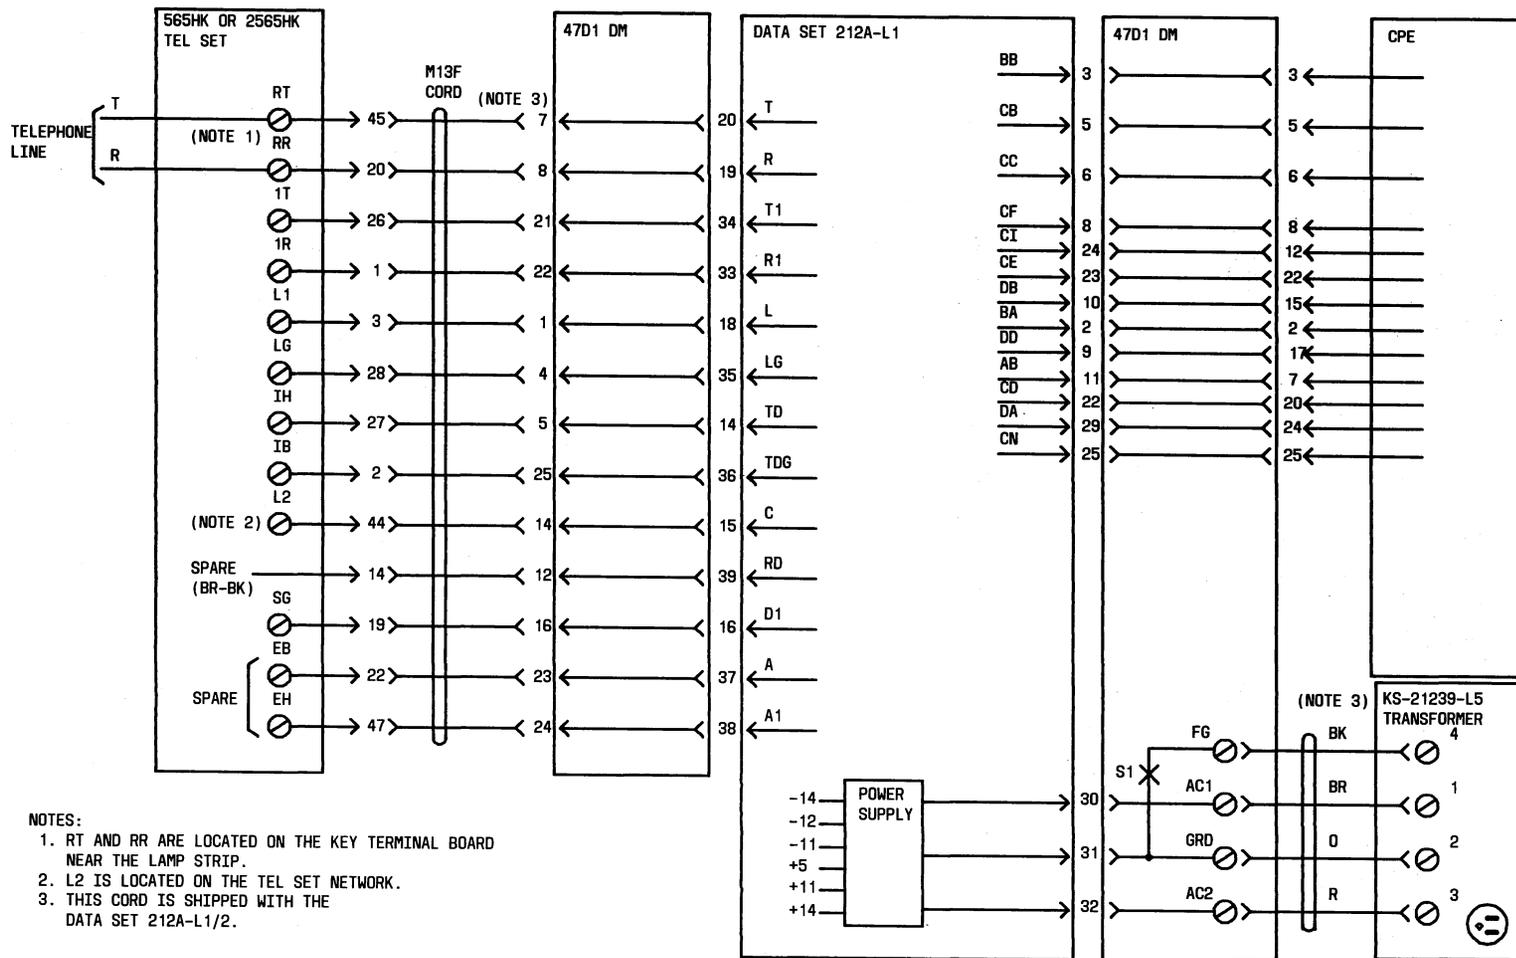

Fig. 5—Connection Wiring for DS 212A-L1/2 Without an ACU
4.04 DS 212A-L1A/2A Without Automatic Calling Unit (ACU): When a single DS 212A-L1A/2A is installed without an ACU, connect cables and connect tip and ring as shown in Fig. 4. Figure 5 provides detailed wiring which may be useful in troubleshooting this arrangement.